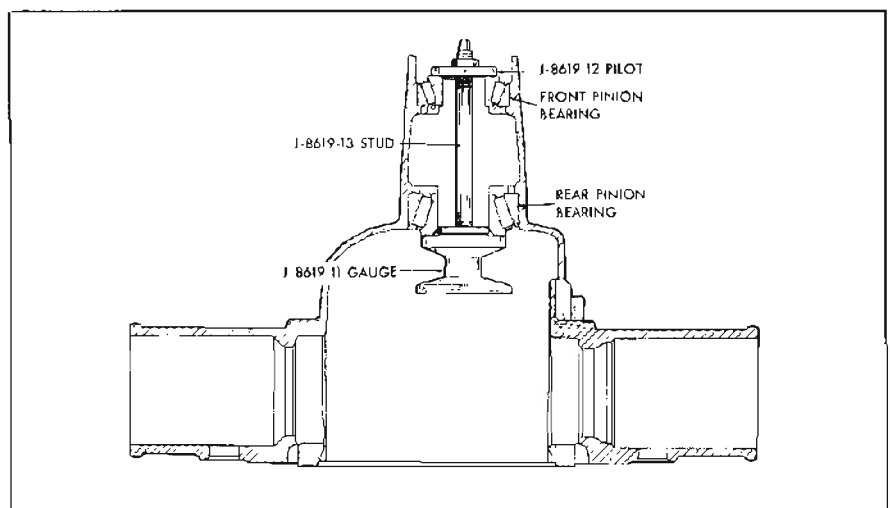

Figure 6-21—Securing Gauge Plate In Carrier
6. Lubricate front and rear pinion bearings; then position them in their respective races in the carrier. While holding bearings in place, install Gauge Plate J-8619-11 in carrier on rear pinion bearing inner race as shown in Figure 6-21 and place Pilot J-8619-12 on surface of front pinion bearing. Insert Stud J-8619-13 through pilot, front and rear bearings, and thread it into gauge plate. See Figure 6-21.